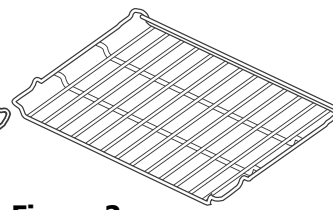

Figure 2
- Offset oven rack (Figure 2).
The **Offset Oven Rack** is used to maximize cooking space (See Figure 2). The offset rack can be used in the lower rack position to roast large cuts of meat and poultry.